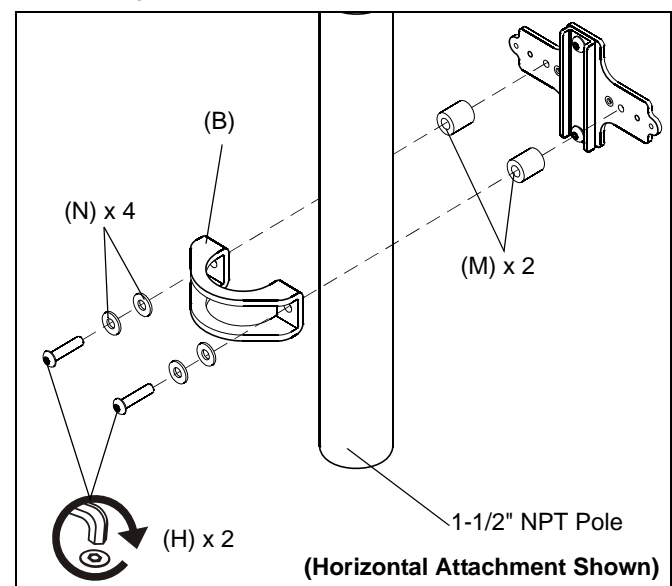

Figure 4
2. Attach pole clamp (B) around the pole to the pole mount bracket using two 1/4-20 x 1-1/4" buttonhead security screws (H), four 1/4" washers (N), and two spacers (M). (See Figure 4)